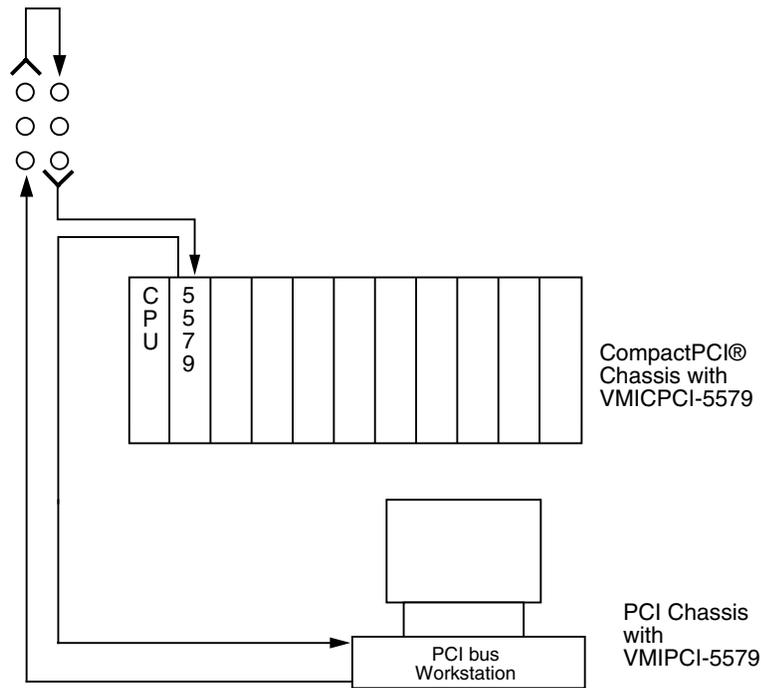

Figure 1. Network Example Using Reflective Memory System
**LINK ARBITRATION** — The VMIPCI-5579 system is a fiber-optic daisy chain ring as shown in Figure 1. Each transfer is passed from node-to-node until it has gone all the way around the ring and reaches the originating node. Each node retransmits all transfers that it receives except those that it originated. Nodes are allowed to insert transfers between transfers passing through.